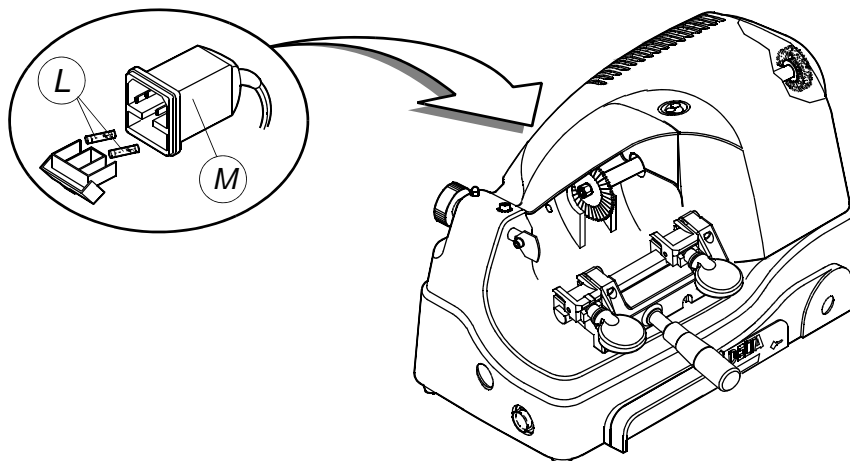

Fig. 18
- 3) remove the fuse box placed below the power inlet (M) (fig. 18);
- 4) replace the fuses (L);